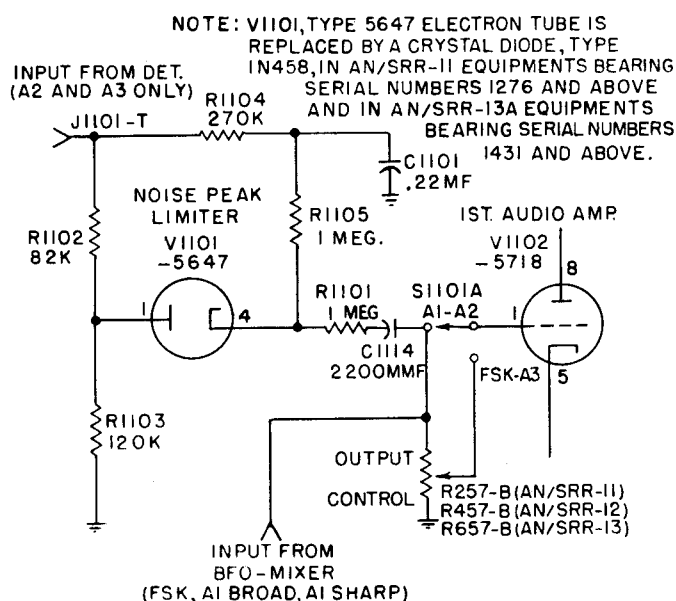

Figure 2-4. Noise Peak Limiter, Simplified Schematic
(1) AUDIO INPUT CIRCUITS.—Input to the audio assembly is determined by the setting of S1101A which is controlled by the RECEPTION control. A simplified schematic of the audio input circuits is shown in figure 2-4. When the RECEPTION control is set at FSK, A1 BROAD, A1 SHARP, output from the BFO mixer, V1004, is applied directly to the first audio amplifier, V1102. But when the RECEPTION control is set at A2, A3 SHARP, or A3 BROAD (the A3 positions are used only on AN/SRR-12 and -13 receivers), output from the diode detector V1005, is applied to the first amplifier, V1102, through a noise peak limiter diode, V1101, which functions as follows: